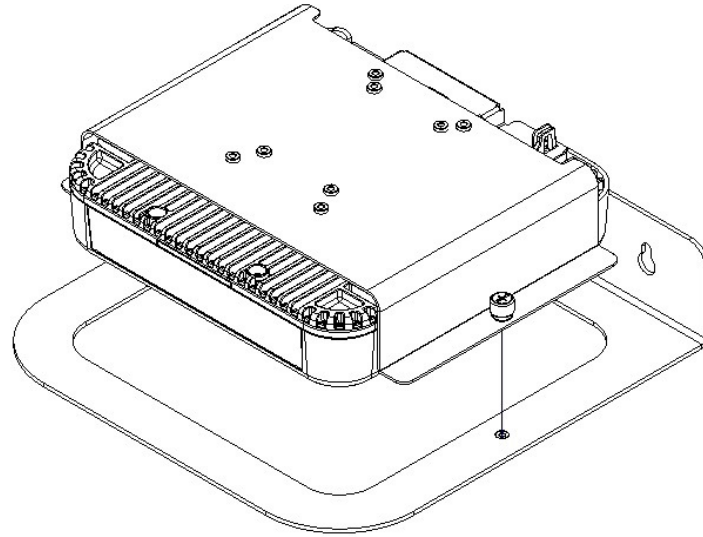

Figure 4
Step 8 – Align the *Oberon access point mounting bracket/Cisco access point assembly* so that the Ethernet cable is facing the wall. Attach the *access point assembly* to the *Oberon right angle wall mount* that was previously installed by placing the threaded studs on the *access point assembly* over the holes of the *Oberon right angle wall mount* (Ref. figure 4).
Step 9 – Secure the *access point assembly* to the *Oberon right angle wall mount* by tightening the two (2) captured fasteners.